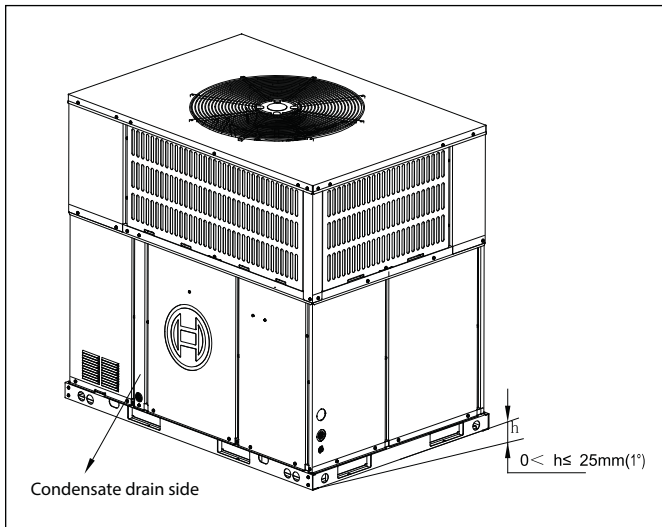

Figure 6
**i** Ensure that Condensate Drain side is pitched lower than the opposite side (see Figure 6).